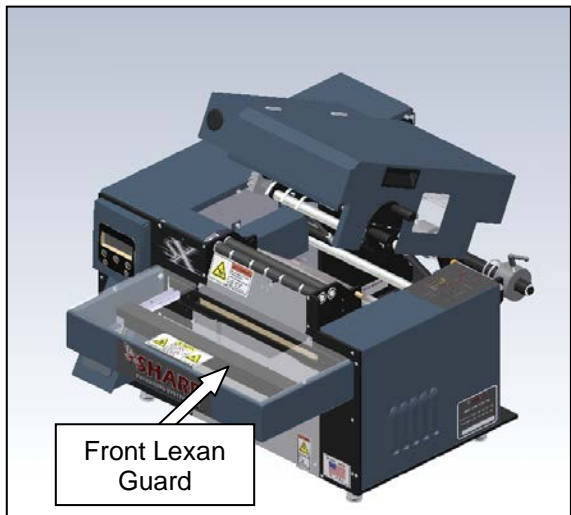

Figure 3-334. Guard Identification
1. Remove the front lexan guard (Figure 3-334).